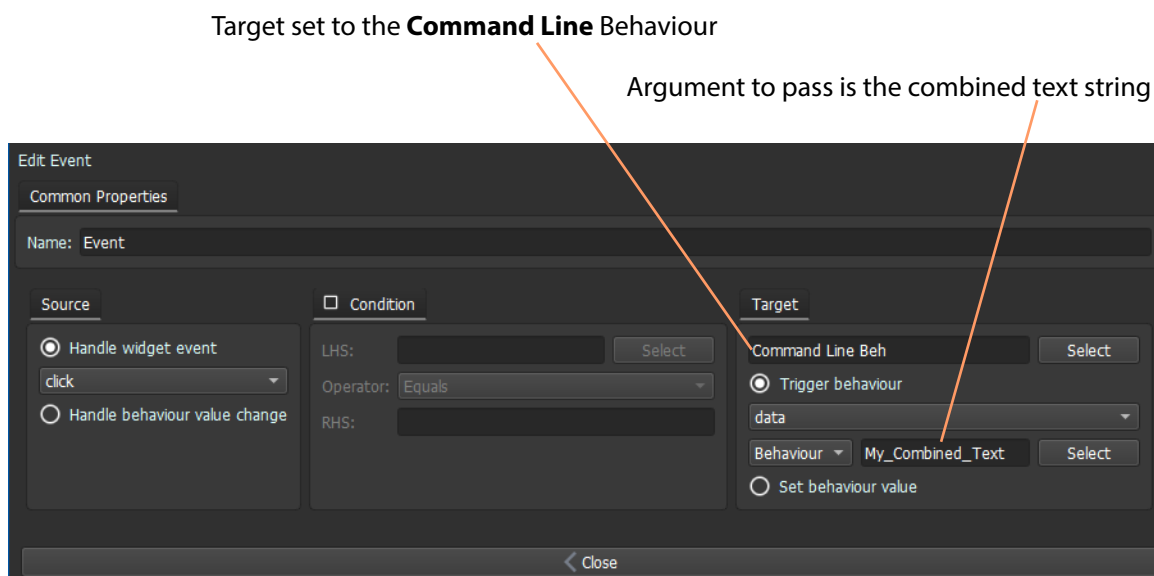

Fig. 7-40: Event Binding Settings
- 3 Set the **Event** Binding to run the **Command Line** Behaviour when the button is clicked and to pass the combined text string to it as an argument. See Figure 7-40.